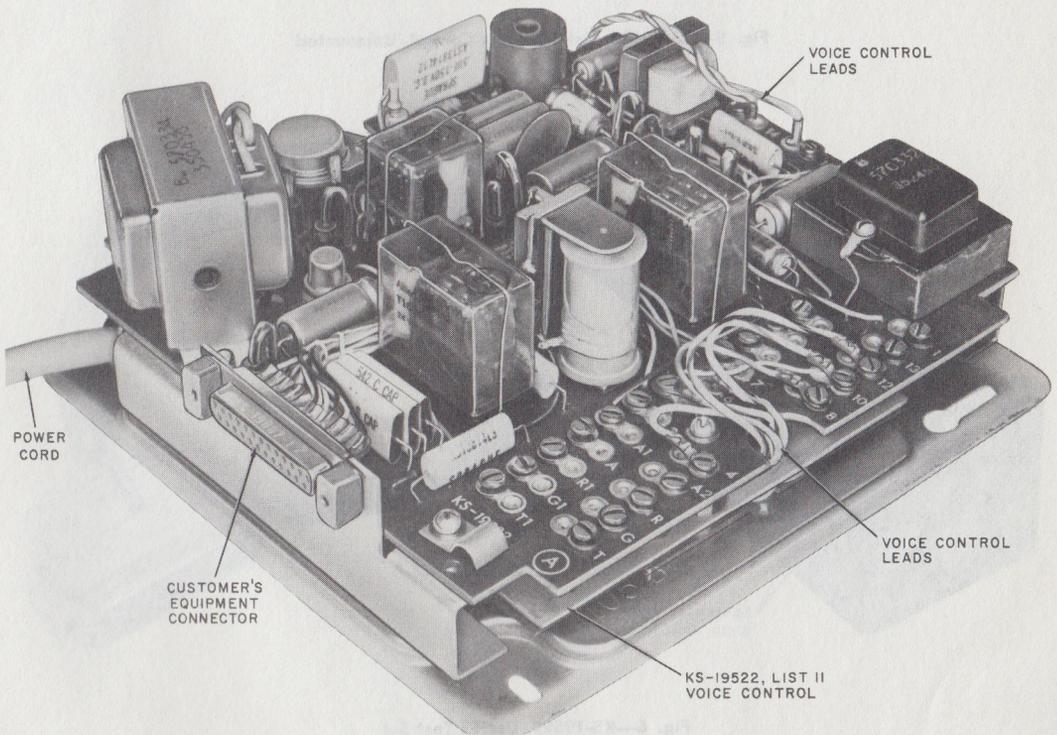

Fig. 4—KS-19522, List 2 or List 22 Recorder Coupler, Cover Removed
**2.09** The KS-19522, List 2 recorder coupler consists of the List 1 recorder coupler with the List 11 voice control factory-installed (Fig. 4). The KS-19522, List 22 recorder coupler consists of the List 21 recorder coupler with the List 11 voice control factory-installed (Fig. 4). The List 11